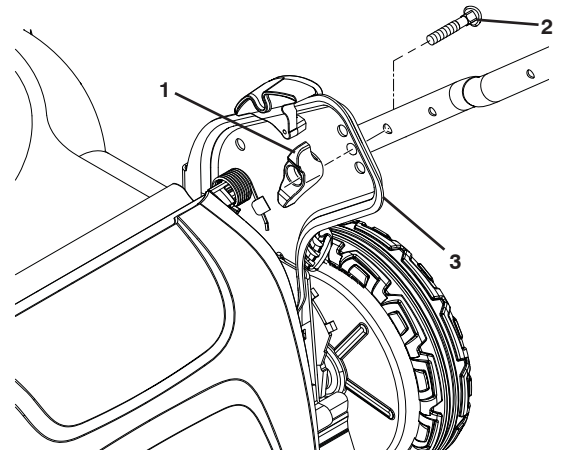

Figure 4
2. Insert handle bolt through handle and bracket and secure with knob (Figure 4).